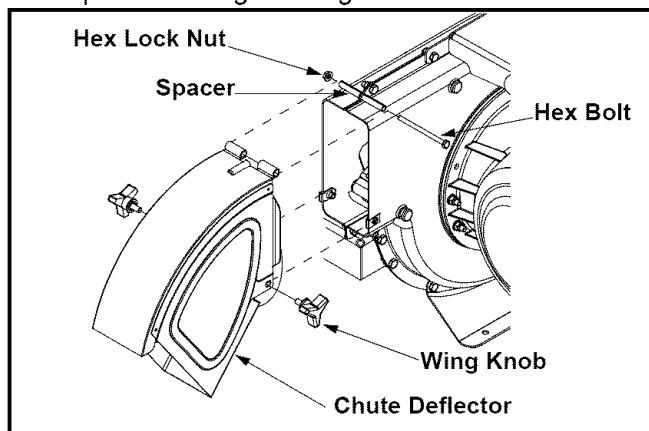

Figure 3
- Remove the wing knobs from each side of the lower impeller housing. See Figure 3.
- Align the chute deflector in position on the discharge opening and insert hex bolt with spacer through hinge on chute deflector (spacers fit inside of hinges). See Figure 3.